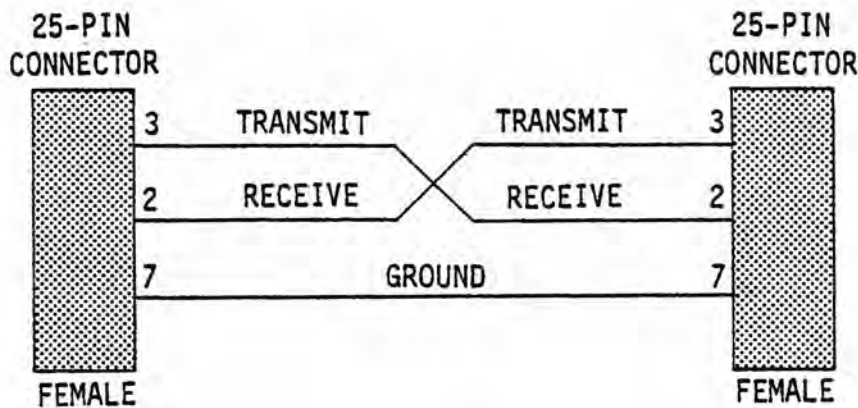

Figure 3-6
3) For RS-232 input/output, the cable is wired as shown in Figure 3-6. Note that the cable is symmetrical. The SIO of the Turnkey Module and the internal cable must be set up for RS-232 I/O.